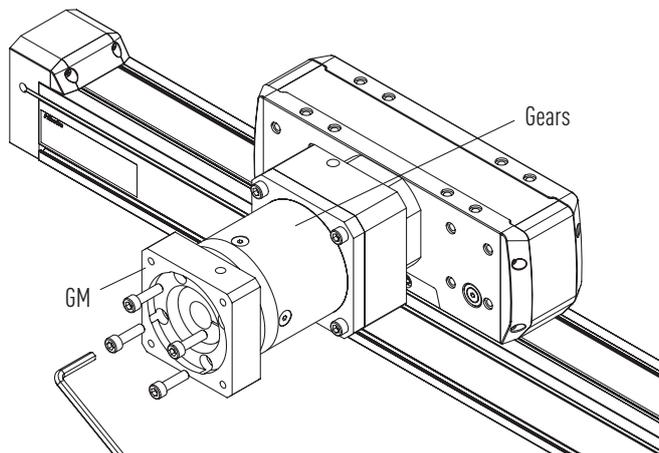

Fig. 6.97 Mounting the motor gear adapter plate GM (HC-B)
- ▶ Attach the motor gear adapter plate GM so that it lies flat on the gears. In doing so, note the position of the hole for the clamping hub's clamping bolt (see Fig. 6.97).